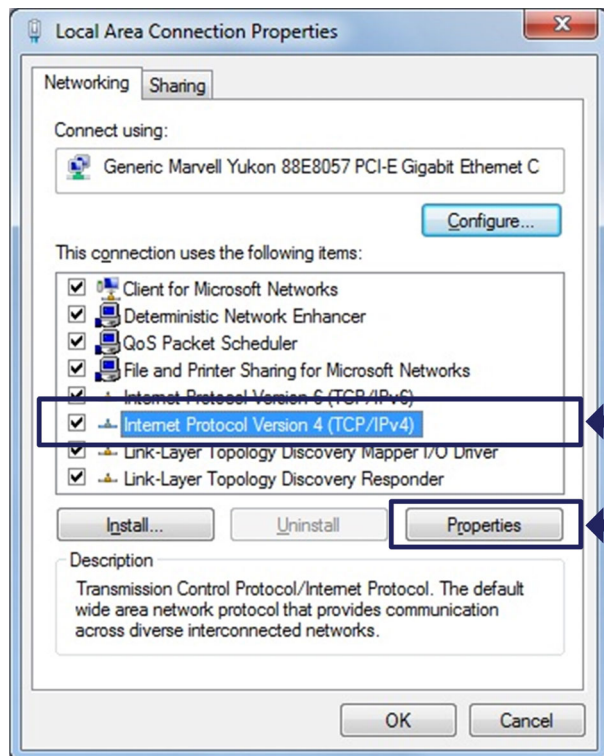

Fig. 3.8 TCP/IPv4
- Select the Internet Protocol (TCP/IP) and click on the **Properties** button (Fig. 3.8).